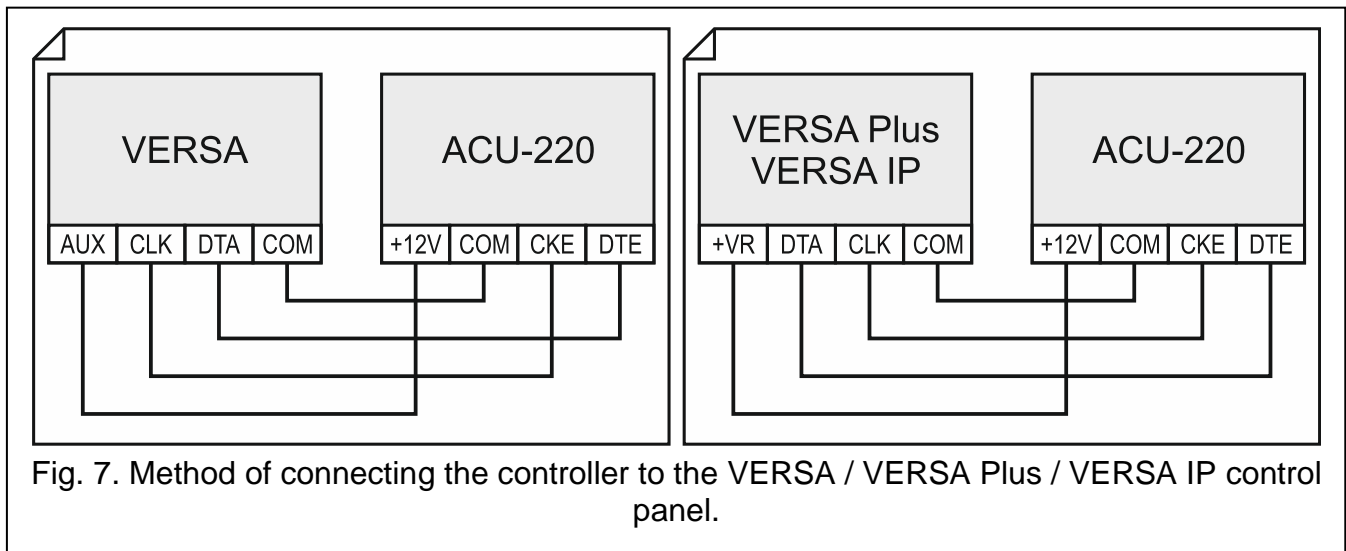

Fig. 7. Method of connecting the controller to the VERSA / VERSA Plus / VERSA IP control panel.
**VERSA / VERSA Plus / VERSA IP:** connect the CKE, DTE and COM terminals to the corresponding terminals of the control panel communication bus (Fig. 7).